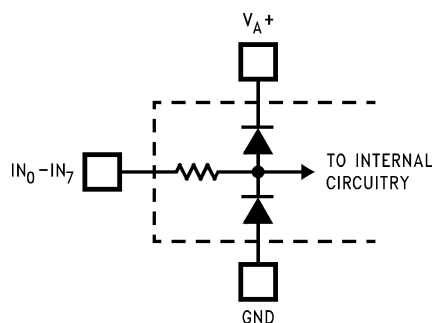

Figure 3.
- (1) Two on-chip diodes are tied to each analog input through a series resistor, as shown below. Input voltage magnitude up to 5V above  $V_{A+}$  or 5V below GND will not damage the LM12L458. However, errors in the A/D conversion can occur if these diodes are forward biased by more than 100 mV. As an example, if  $V_{A+}$  is 3.0  $V_{DC}$ , full-scale input voltage must be  $\approx 3.1 V_{DC}$  to ensure accurate conversions. See Figure 3
- (2)  $V_{A+}$  and  $V_{D+}$  must be connected together to the same power supply voltage and bypassed with separate capacitors at each  $V^+$  pin to assure conversion/comparison accuracy.
- (3) Accuracy is ensured when operating at  $f_{CLK} = 6\text{ MHz}$ .
- (4) With the test condition for  $V_{REF} = V_{REF+} - V_{REF-}$  given as +2.5V, the 12-bit LSB is 305  $\mu V$  and the 8-bit/"Watchdog" LSB is 4.88 mV.
- (5) Typical figures are at  $T_A = 25^\circ C$  and represent most likely parametric norm.
- (6) Limits are specified to AOQL (Average Output Quality Level).
- (4) Typical figures are at  $T_A = 25^\circ\text{C}$  and represent most likely parametric norm.
- (5) Limits are specified to AOQL (Average Output Quality Level).
- (2)  $V_{A+}$  and  $V_{D+}$  must be connected together to the same power supply voltage and bypassed with separate capacitors at each  $V^{+}$  pin to assure conversion/comparison accuracy.
- (3) Accuracy is ensured when operating at  $f_{CLK} = 6 \text{ MHz}$ .
- (4) Typical figures are at  $T_A = 25^{\circ}C$  and represent most likely parametric norm.